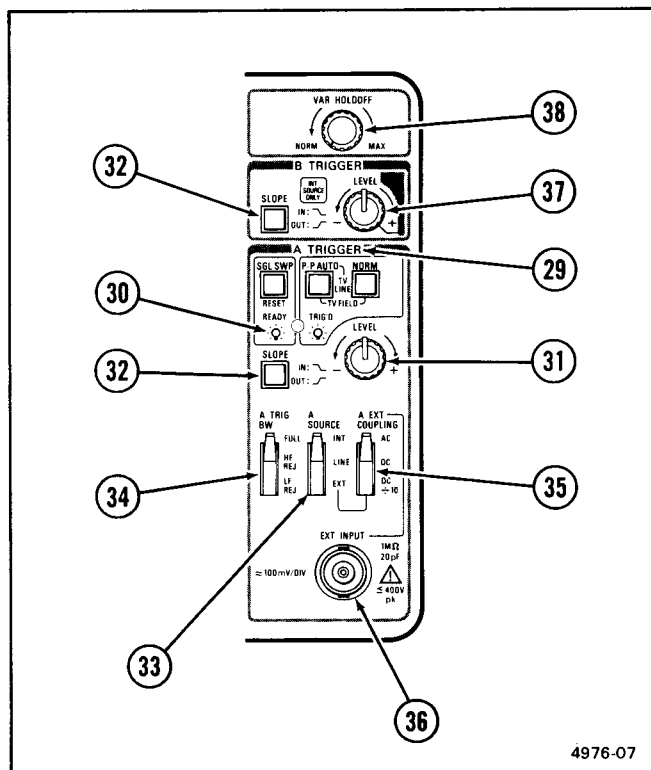

Figure 2-6. Trigger controls, connector, and indicator.
Refer to Figure 2-6 for location of items 29 through 38.